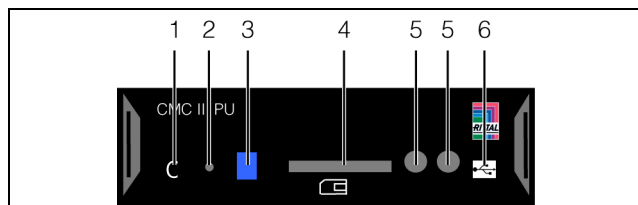
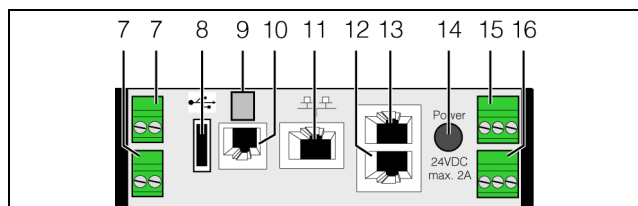

Fig. 10: Front of the CMC III PU
Fig. 11: Rear of the CMC III PU
A multi-LED for the status display is integrated at the front of the CMC III PU (fig. 10, item 3). Further LEDs are also located on the rear of the CAN bus connection (fig. 11, item 12 and 13) and on the Ethernet interface (fig. 11, item 11).
- Connect the device with a network cable using the Ethernet interface to your computer (fig. 11, item 10).
- Connect the CMC III PU with a network cable with your Ethernet LAN (fig. 11, item 10).